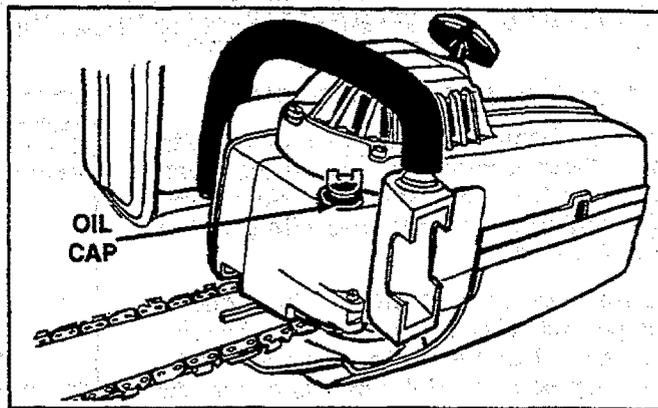

Figure 9
- Turn saw on its side with oil cap up. Figure 9.